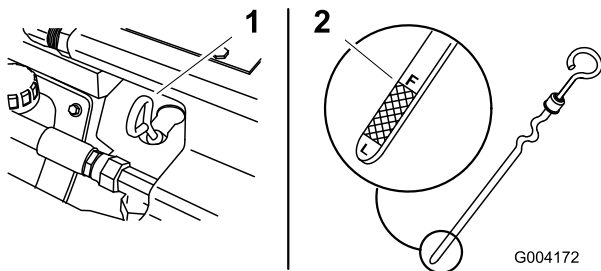

Figure 37
4. Clean the area around the oil dipstick (Figure 37).
5. Pull out the dipstick and wipe the metal end clean (Figure 37).
6. Slide the dipstick fully into the dipstick tube (Figure 37).